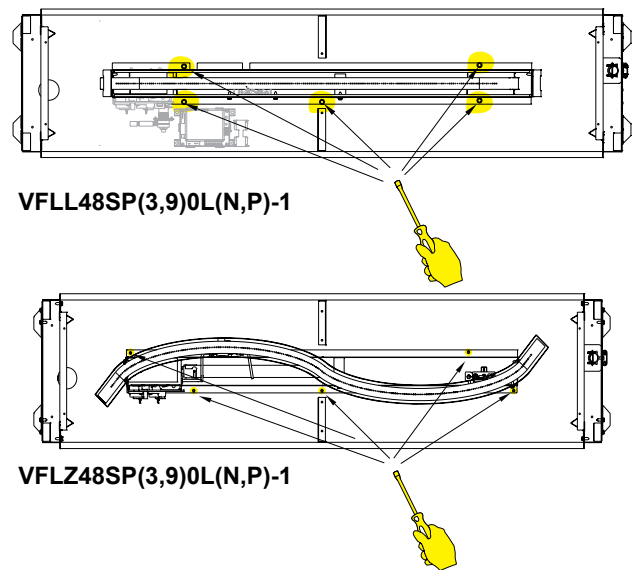

Figure 11
2. Remove the five 5/16" Hex screws that hold down the complete burner and valve assembly. There are three screws on the front bottom flange, and two on the back bottom flange, near the ends. **See Figure 11.**
- Reinstall the burner and valve assembly and reattach the screws removed in step 2. **See Figure 11**.